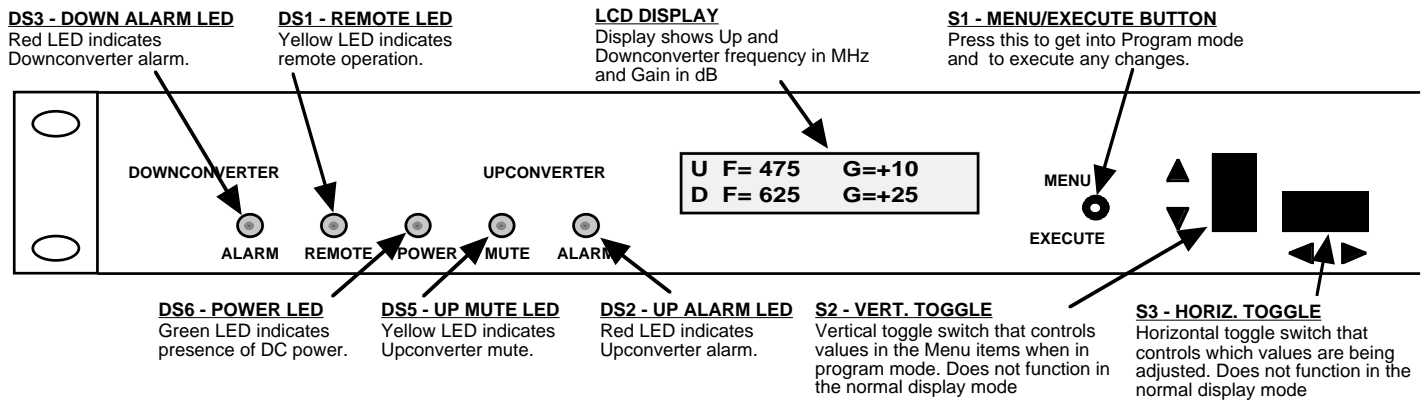

Figure 2.2 Model 2017-95 Front Panel Controls and Indicators
- 8.) Be sure DS6 (green, DC Power) is on and DS2 (red, Alarm) is off (Figure 2.2).
- 7.) Be sure DS6 (green, DC Power) is on and DS2 (red, Alarm) is off (Figure 2.2).
2.5.1 Functions - This section describes operation of the front panel controls. There are three operator switches, the LCD display and alarm indicator LEDs. All functions for the equipment are controlled by these components. The functions are (see Figure 2.2):
Alarm indications appear on the LEDs (see figure 2.2).